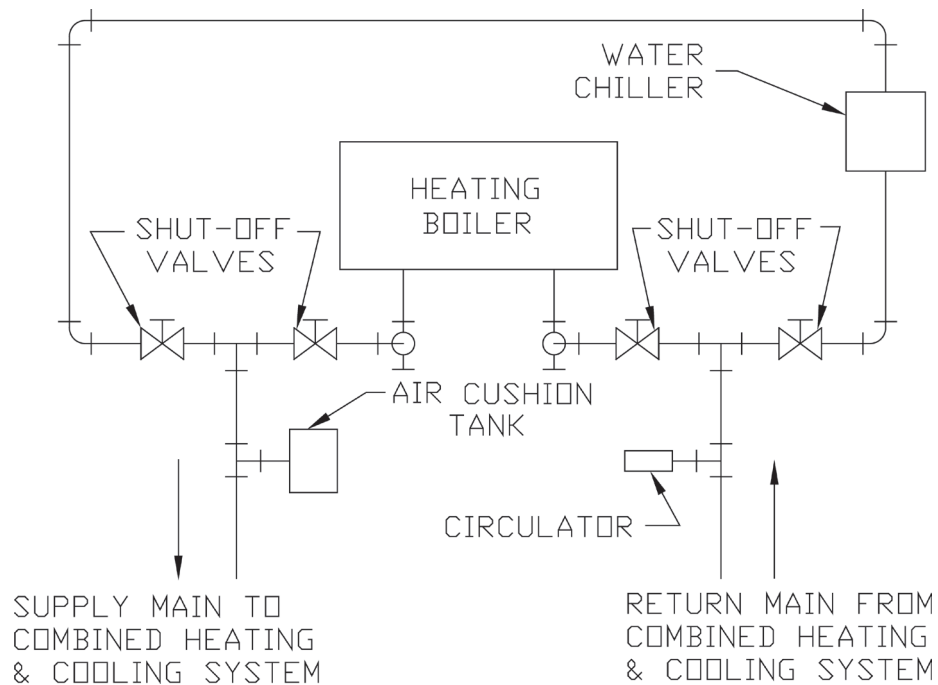

Figure 11C: Recommended Piping for Combination Heating and Cooling (Refrigeration) System
1. If this boiler is used in connection with refrigeration systems, the boiler must be installed so that the chilled medium is piped in parallel with the heating boiler using appropriate valves to prevent the chilled medium from entering the boiler. See Figure 11C. Also, consult Residential Hydronic Heating Installation and Design I=B=R Guide.